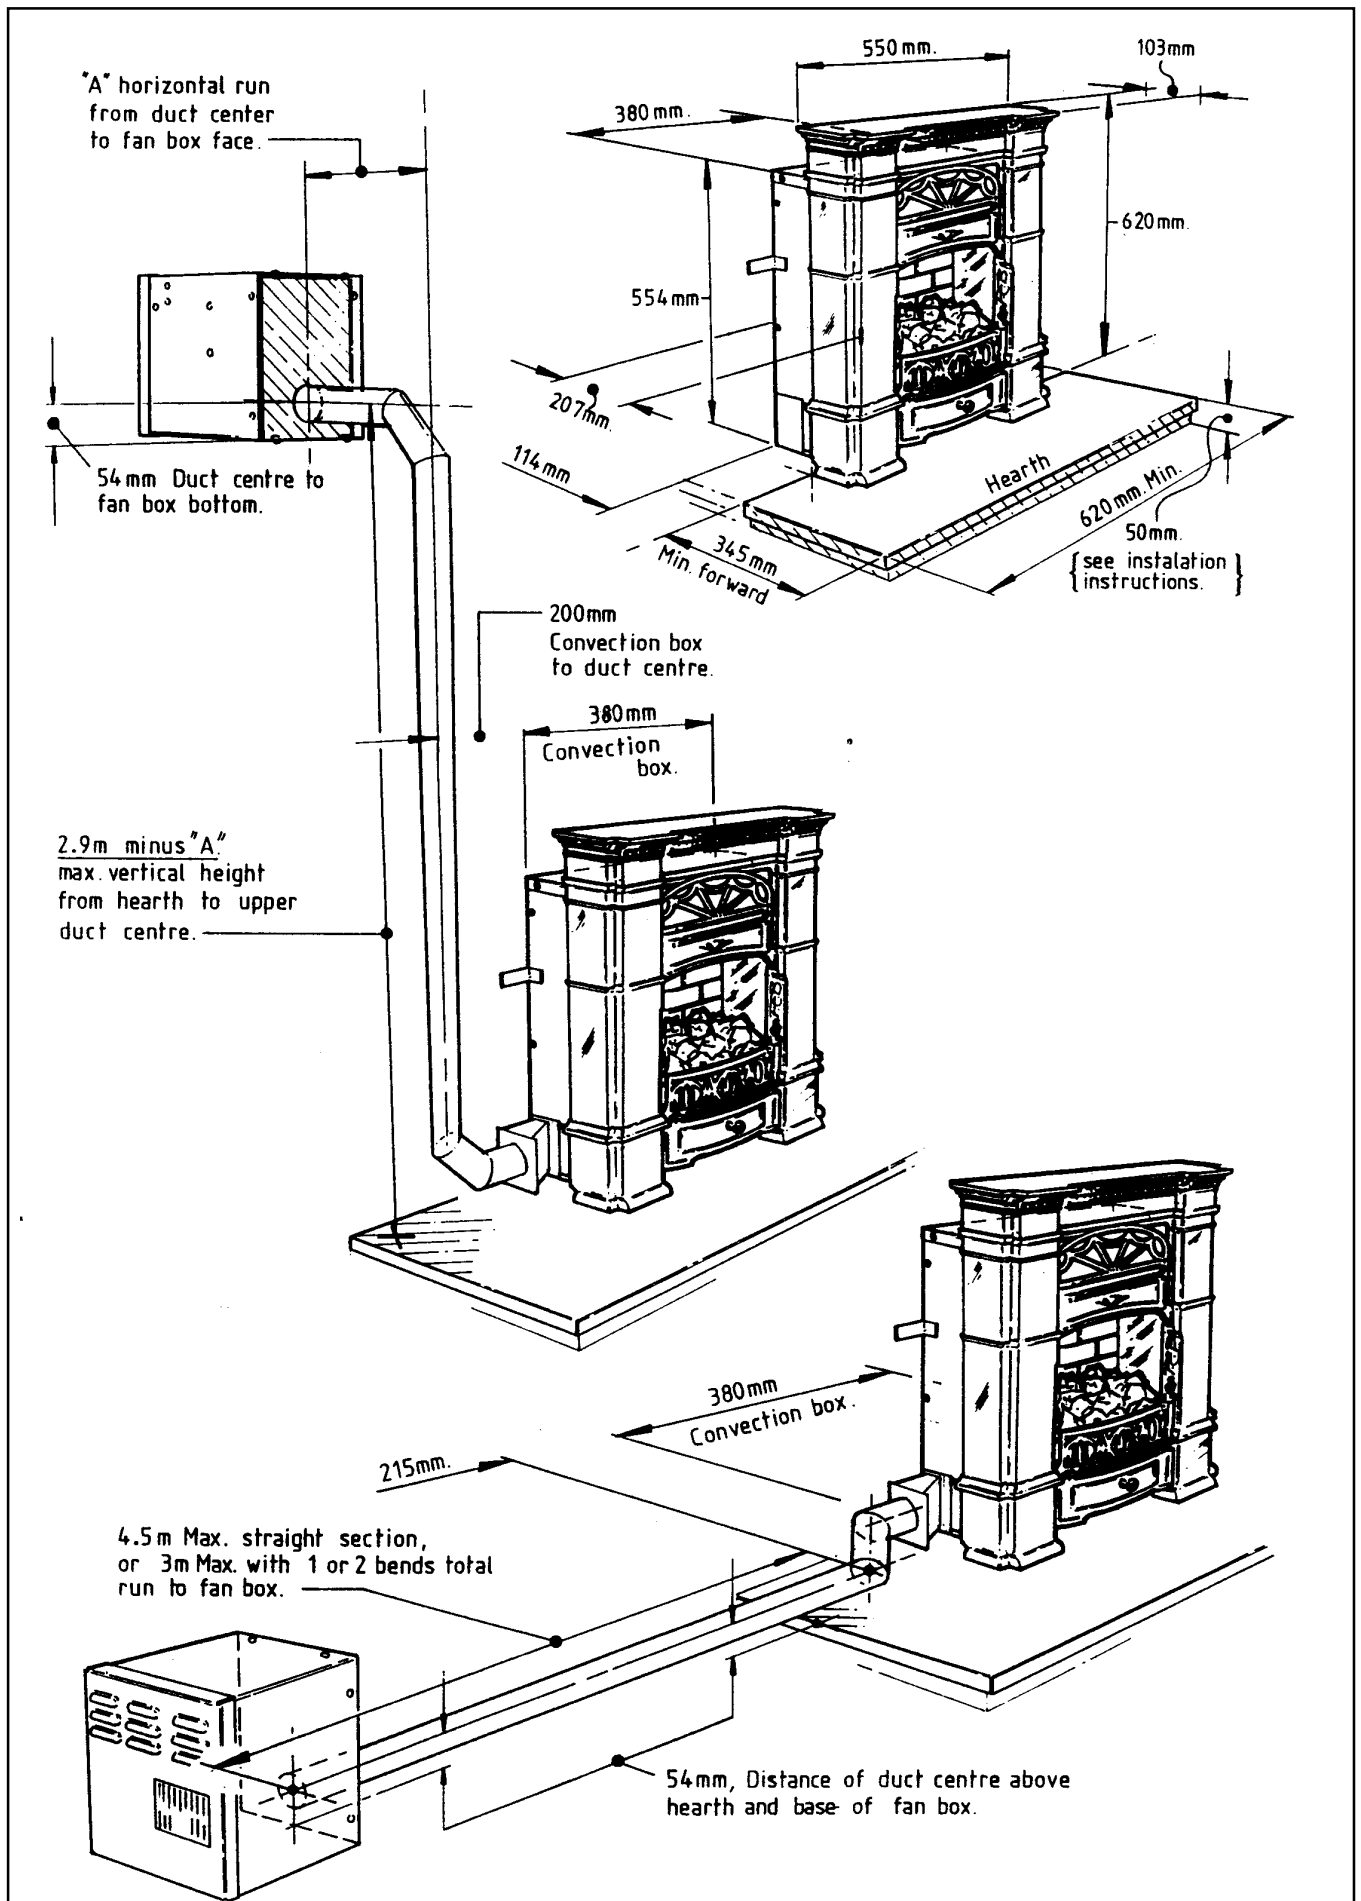

Figure 1 General Installation Dimensions
Figure 1 shows the critical installation dimensions.
2.6 This appliance must be mounted with a non-combustible hearth (n.b conglomerate marble hearths are considered as non-combustible). The fire box must be mounted on a non-combustible surface. The hearth must project at least 345mm forward of the convection box front and be at least 620mm wide (See figure 1). The hearth material must be at least 12mm thick. The periphery of the hearth (or fender) should be at least 50mm above floor level to discourage the placing of carpets or rugs over it.
2.7 The appliance must not be fitted directly against a combustible wall. If the appliance is to be fitted against a wall with combustible cladding, such materials must be removed from the area covered by the metal outer surround of the appliance (see figure 1). We suggest that the actual surround is used as a template to mark the area for combustible cladding removal.